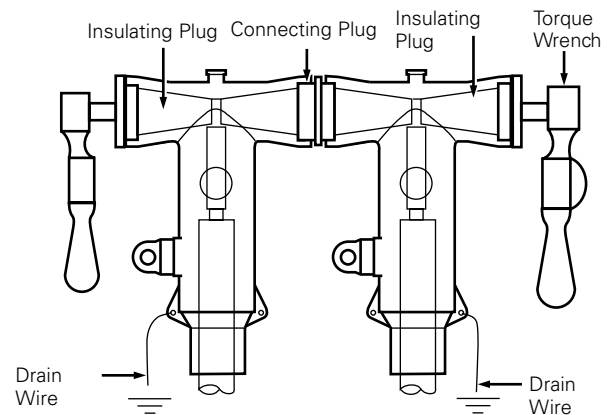

Figure 33. Last insulating plug installation.
- Secure the first insulating plug using a 1" wrench. Using a 1" socket on a torque wrench, tighten the second insulating plug to 55 ft-lbs. (Refer to Figure 33.)